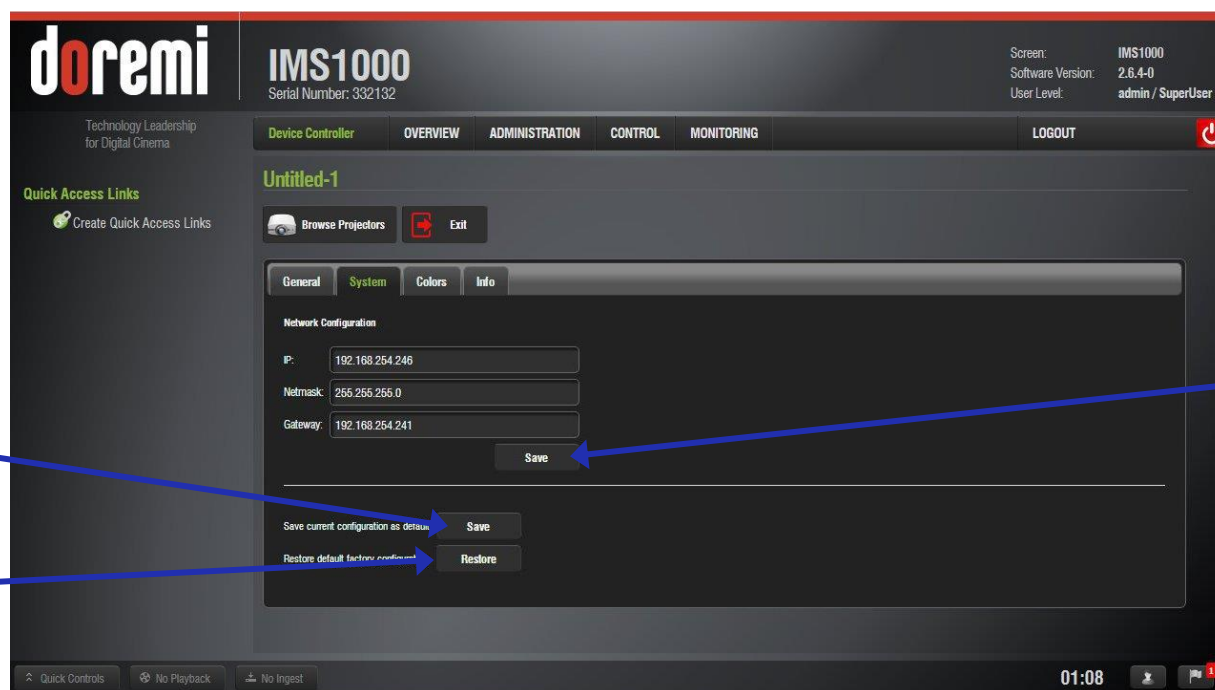

Figure 311: System Tab
The second tab displays the networking configuration (Figure 311).
- Click Save to confirm the changes. These changes take immediate effect and they expire when you reboot the unit, being replaced by the default networking configuration (Figure 311).
- You can save these settings as default by pressing the Save as Default button. These configurations will be effective even after a reboot (Figure 311).
- To restore the networking configuration to factory default, click on the Restore button (Figure 311). The factory default settings are: